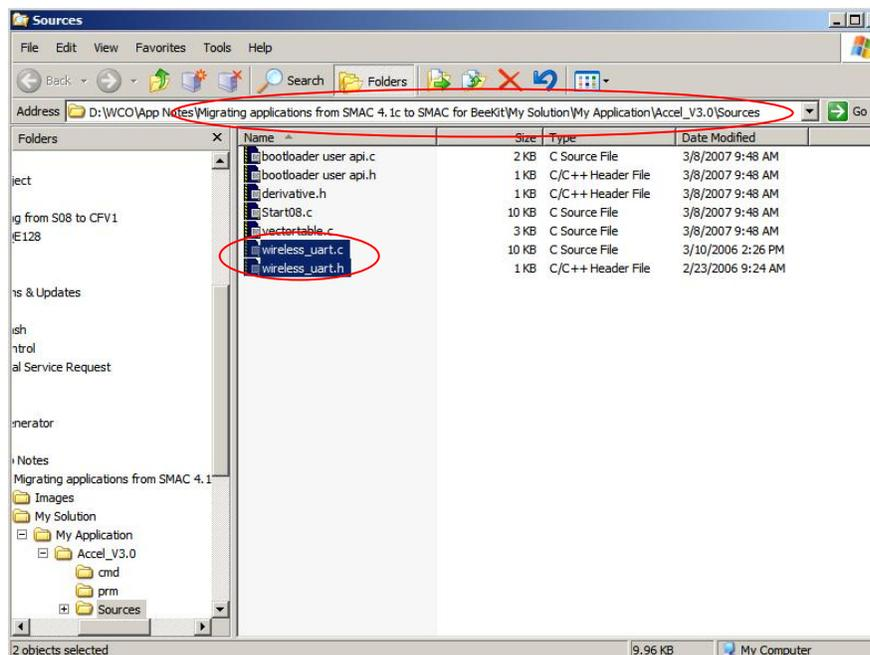

Figure 15. Paste Wireless UART files into the Accelerometer application folder
- Paste the Wireless UART source and header files into the Sources folder where the Accelerometer application sources and headers files were (as shown in Figure 15) to have the user application files located in the SMAC Codebase 1.0.4 project folder.